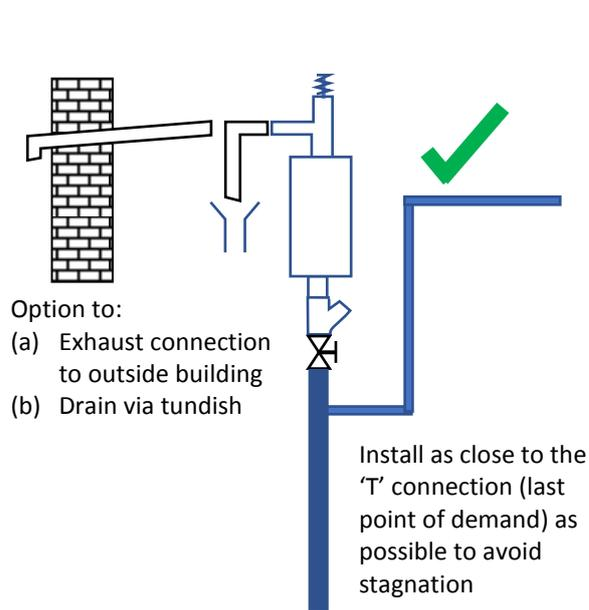
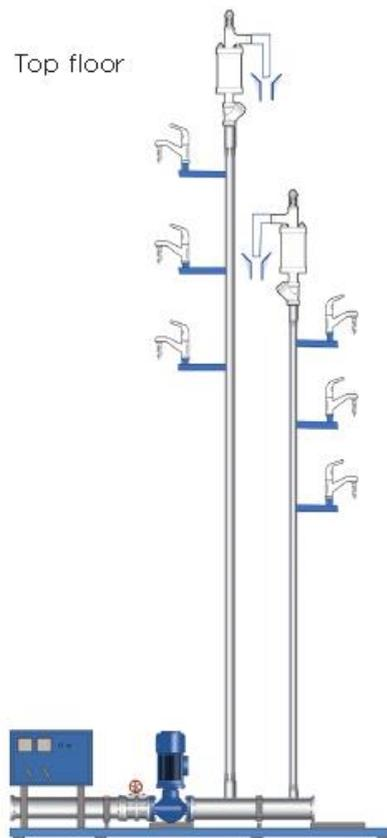

FIG 1.1
FIG 1.3
2. Refer to Fig. 1.3 as an example of multi-riser use. Install the AQUA B70-526 at the top of the riser (see Fig 1.1) noting location conditions above.
4. Where more than one riser is used, install an AQUA B70-526 at the top of each riser (see Fig 1.3)
7. AQUA B70-526 must be installed vertically as shown in Fig 1.1